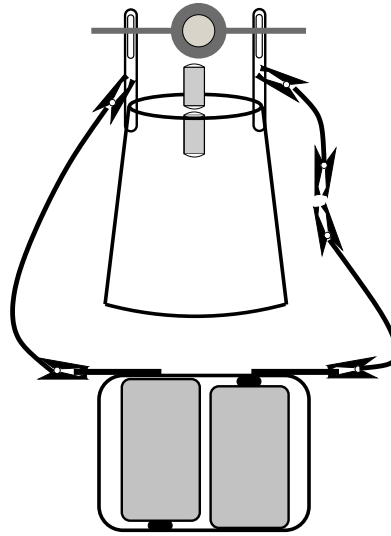

Figure 12.3: Simple motor.
2. Construct the setup shown in Figure 12.3. One magnet should be on top of your stand, and the other magnet should be inside the stand so that they attract each other through the cup surface; center the magnets in the middle of the stand. Mount your coil in the stand. Make sure the coil spins freely, and that it doesn't bump the magnet. You can adjust the axles for smoother spinning.